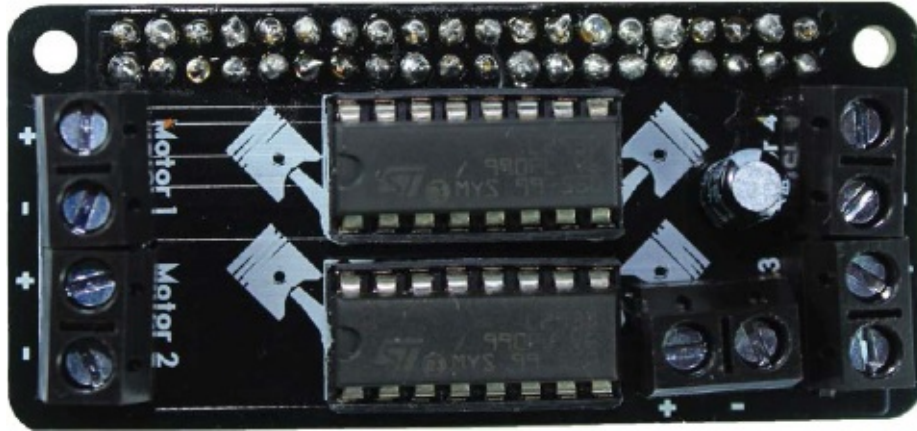

FIGURE 20-3: Assembled MotoZero add-on
MotoZero allows you to control four motors independently, but you need to control just two DC motors. The MotoZero will come unassembled, so you need to solder its parts. The Pi Hut provides an assembly manual on the product's page, so go to <https://thepihut.com/motozero/> and follow the instructions there before continuing. Your MotoZero should look like Figure 20-3 after assembly.
Figure 20-3 shows the connections you can make to MotoZero: positive (+) and negative (–) connections for four DC motors, and a positive (+) and negative (–) connection for the power supply. You need an external power source for driving the motors. The motors require a big jump in current to move, so using a separate power source prevents the Pi from suddenly losing power when this jump occurs.
3. Without inserting the batteries, connect the battery holder's red wire to the positive (+) pin on the MotoZero power connector and its black wire to the negative (–) pin, shown at the bottom of the board in Figure 20-3.